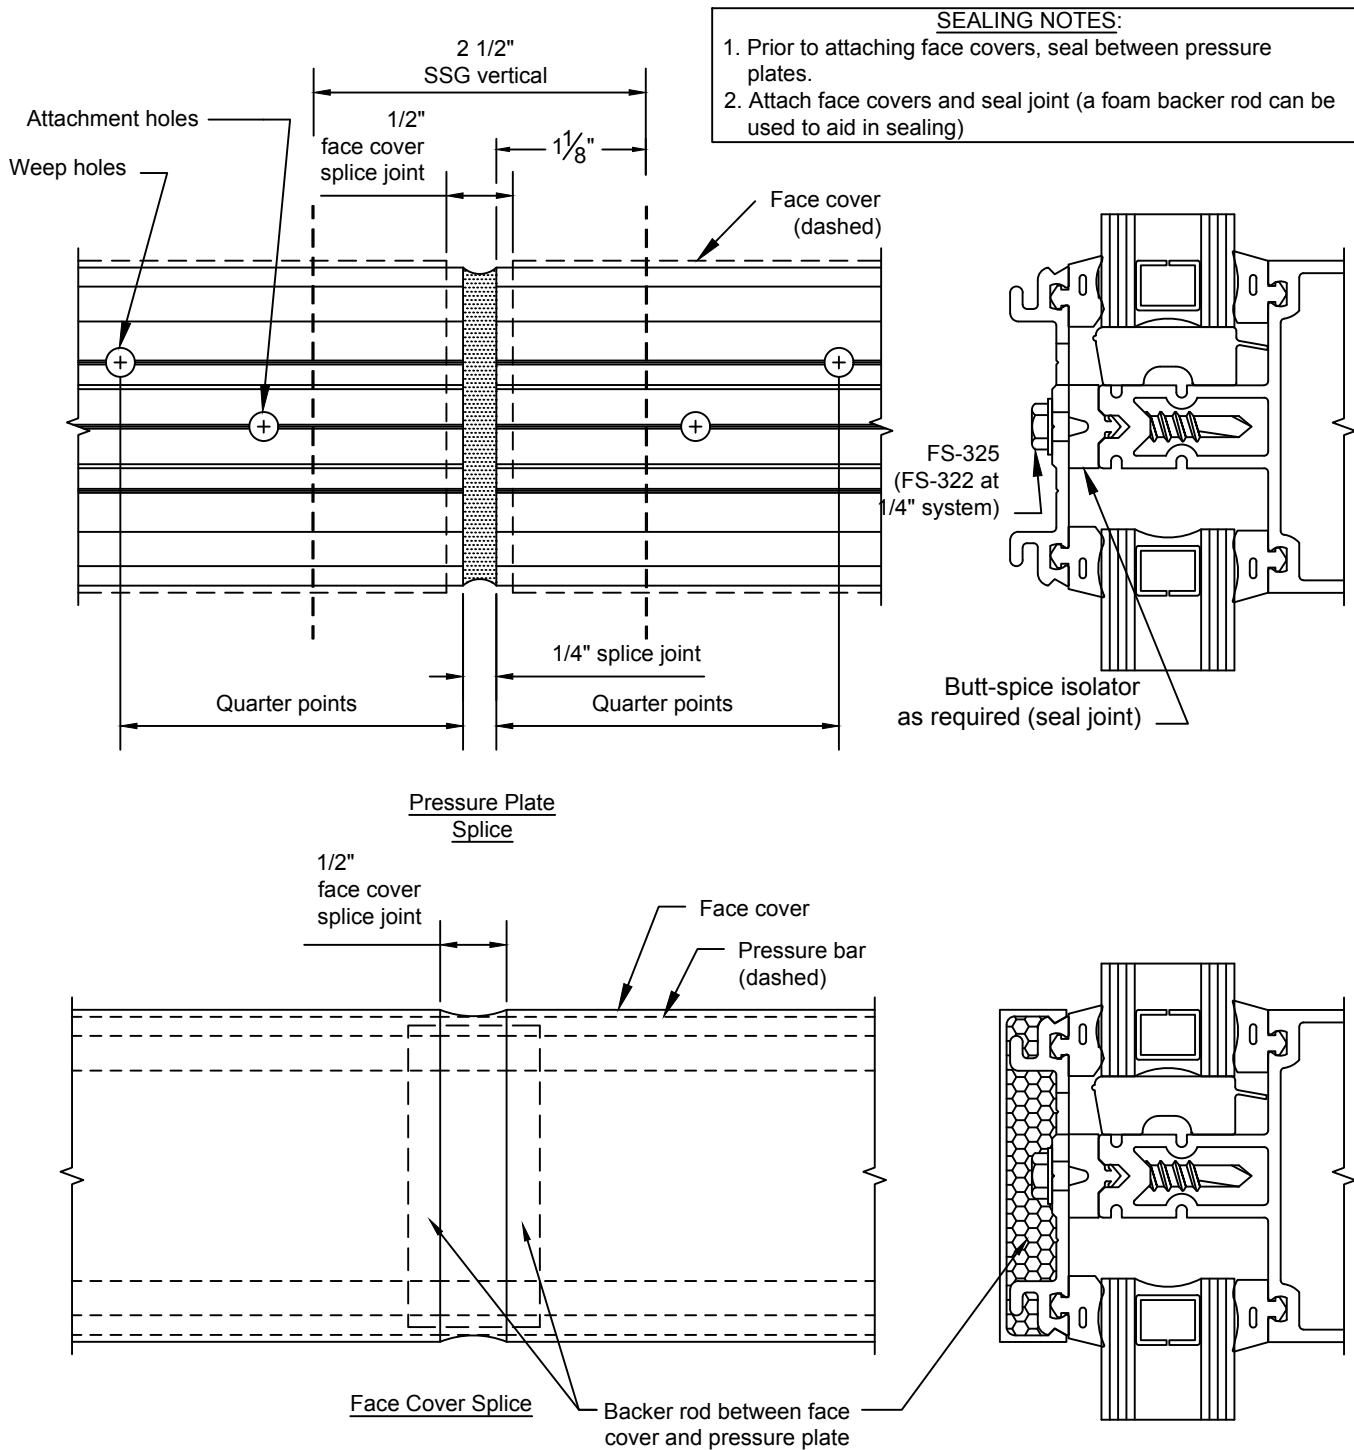

Figure 21
- 3.11 After removing horizontal temporary retainers, center horizontal pressure plates in opening, leaving 1/8" gap on each end. Make sure that weep holes are on the top side of the pressure plate. **NOTE:** Horizontal pressure plates and face covers run continuous over SSG mullions, not to exceed 3 lites in length. Apply face cap to continuous pressure plates only. Do not span face cap over discontinuous/separate pressure plates. SEE FIGURE 21, page 26 for splicing and sealing instructions.